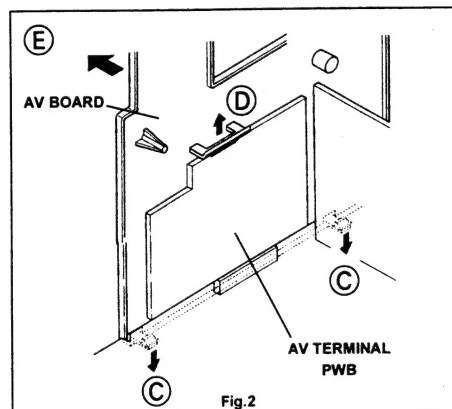

Fig. 2
2. Remove the claws marked (C) under the CHASSIS as shown in Fig. 2.
3. While raising the claw marked (D), remove the top of the AV BOARD slightly in the direction of arrow (E) as shown in Fig. 2.